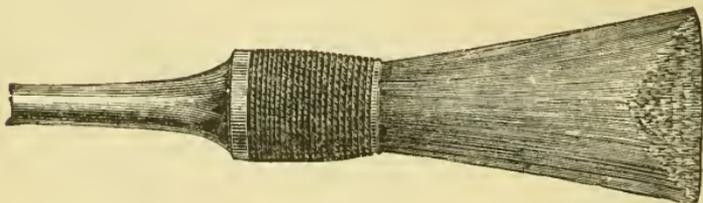

Fig. 10—Coach Painters' Spoke Brushes.
i. Coach painters' spoke brushes run in sizes from No. 1 to 3 and are used chiefly by the carriage trade, but they are also very useful for a number of purposes in general painting where a long but slim brush is to be used. Decorators in water colors will also find them a handy tool for coves, etc. See Fig. 10.